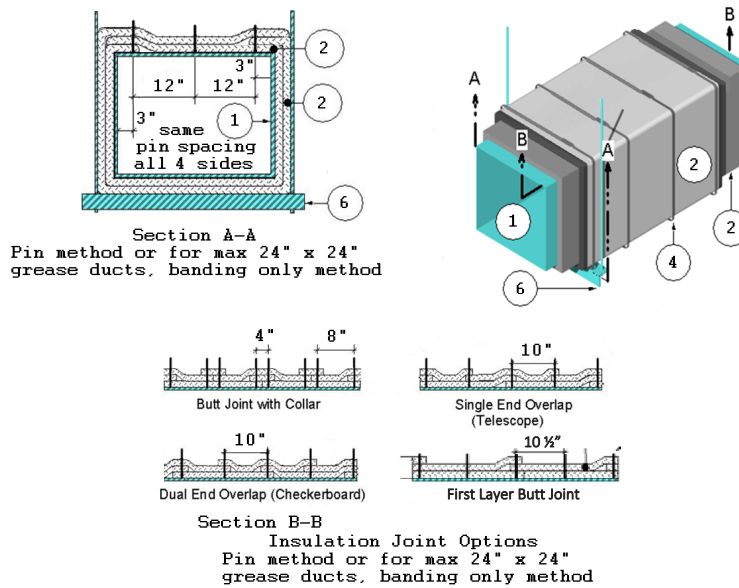
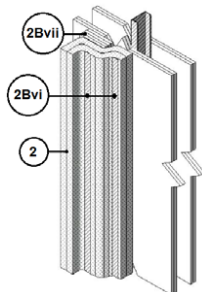

Figure 1. EFS Ductz+ Grease Duct Insulation System
Figure 6. Wall Anchoring
A. STANDARD INSTALLATION – Apply both layers of duct insulation with transverse and longitudinal joints as shown in Figure 1. For
rectangular grease ducts (Item 1), locate inner layer longitudinal joints (Figure 1) at a corner of the grease duct (Item 1), and offset the outer layer joint (Figure 1) to a different corner. For horizontal sections, ensure the longitudinal joints are placed at the top corners. For round grease ducts (Item 1), locate inner layer longitudinal joints and outer layer longitudinal joints 90° apart; for horizontal sections, center the joints on the top of the grease duct (Item 1). Use a min. 4 in. overlap at all insulation joints. Optional: for rectangular ducts only, compressed butt joints may be used on the first layer and horizontal sections only. Transverse butt joints with collar shall use a min. 8 in. wide collar with min. 4 in. overlap on each side of the butt joint. Use blanket, available in various widths, fully encapsulated with a polypropylene foil scrim. Cover all visually exposed ends and edges of duct insulation with nominal 3 in. wide aluminum foil tape. Tape all joints (inner and outer layers; longitudinal and transverse) with nominal 3 in. wide aluminum foil tape (reference Figure 2). Use aluminum foil tape certified to comply with the following criteria:
- iv. Insulation Anchors: Floor/Ceiling Application – Use min. 16 GA, min. 1-1/2 in.-wide steel sheet strips, and min. 1/4 in. diameter hex-head concrete anchors, spaced to match the longitudinal pin spacing shown in Figure 1. Position the floor/ceiling anchors over a min. 6 in. wide horizontal flange of the flared duct insulation (Item 2) which is in contact with the floor/ceiling assembly. Position the anchors such that the duct insulation extends a min. 1-1/2 in. beyond the anchors. Refer to Figure 6.
- v. Insulation Anchors: Wall Application – Use min. 16 GA, min. 1-1/2 in. wide steel sheet strips. For concrete or masonry wall, fasten the duct insulation (Item 2) to the wall using min. 1/4 in. diameter, hex-head concrete or masonry anchors as applicable, and spaced to match the longitudinal pin spacing shown in Figure 1.
- vi. Gypsum Anchor Protection Boards: For installation onto steel stud and gypsum wall, use three layers of 6 in. wide, 5/8 in. Type X gypsum board strips, mounted vertically onto the gypsum wall under the duct insulation (Item 2) and adjacent to the wall anchors (Item 2Bvi) as shown in Figure 6. Attach the gypsum wall anchor boards with #10 drywall Type G laminating screws spaced 24 in. on center (oc). Secure the insulation blanket (Item 2) to the gypsum wall anchor board using wall anchors (Item 2Bvi) consisting of min. 16 GA, min. 1-1/2 in. wide steel sheet strips and #10 drywall Type G laminating screws spaced to match the longitudinal pin spacing shown in Figure 1.
For gypsum wall, use min. 1/4 in. diameter hex-head self-drilling screws spaced to match the longitudinal pin spacing shown in Figure 1. Position the wall anchors over a min. 6 in. wide flange of the flared duct insulation (Item 2) which is in contact with the wall assembly. Position the anchors such that the duct insulation extends a min. 1-1/2 in. beyond the anchors. Refer to Figure 6. For steel stud and gypsum wall attachment, ensure that studs are positioned in line with the wall anchors.